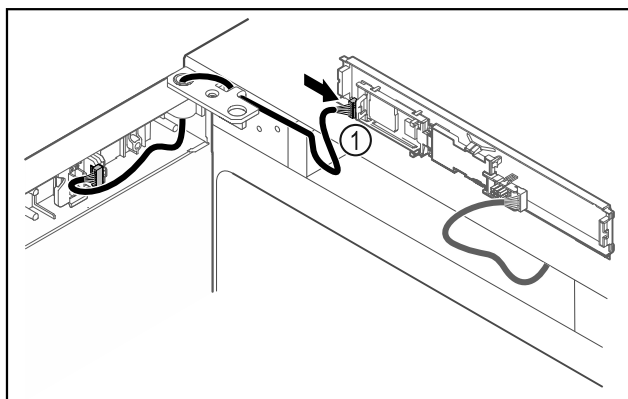

Fig. 46
- ▶ Piespraudiet spraudni Fig. 46 (1) pie shēmas plates.